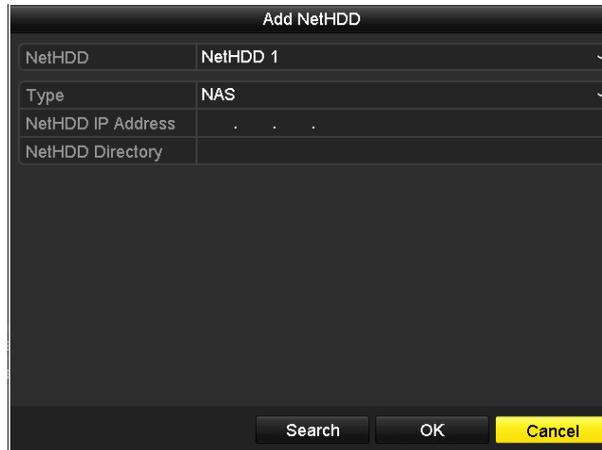

Figure 14-7 HDD Information Interface
Step 2 Click **Add** to enter the **Add NetHDD** interface, as shown in Figure 14-7.